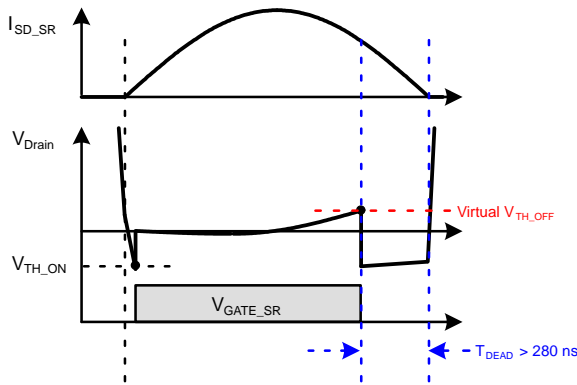
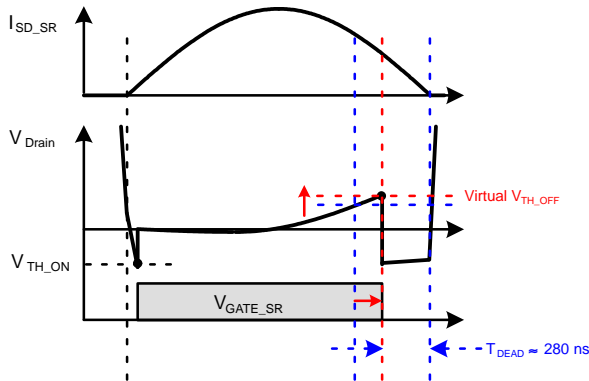

Figure 23. Premature SR Gate Turn-off ($T_{DEAD} > t_{DEAD_H}$)
Figure 24. Dead Time Control to Maintain $T_{DEAD} \approx t_{DEAD_H}$
In FAN6248HC(D) version, if a dead time T_{DEAD} is larger than 280 ns of t_{DEAD_H} , as shown in Figure 23, V_{offset} is decreased by one step in next switching cycle. As a result, the dead time is decreased by increase of virtual V_{TH_OFF} , and becomes close to t_{DEAD_H} , as shown in Figure 24. If the dead time is smaller than t_{DEAD_H} , the dead time is increased by the virtual V_{TH_OFF} decrease. Thus, the dead time is maintained at around t_{DEAD_H} regardless of parasitic inductances.